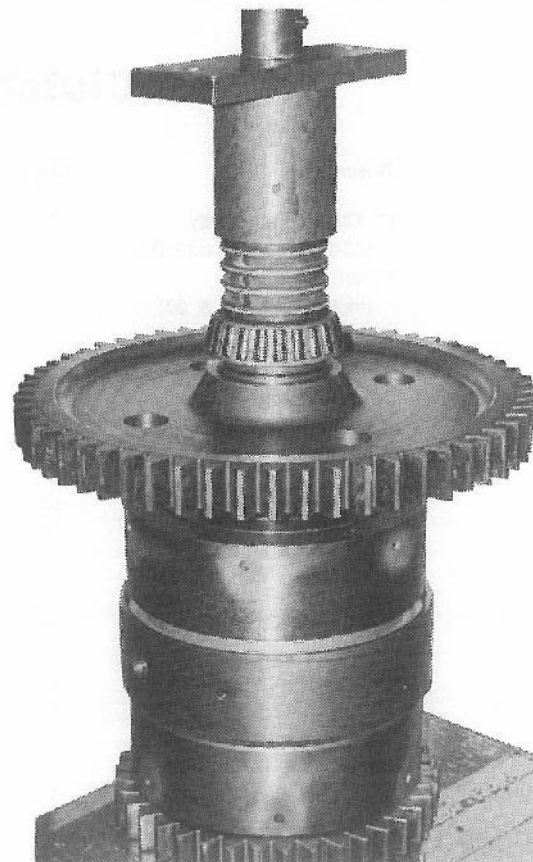

Figure 2:
4. Thread a No. 4-40 screw into a hole in the top of the core (26) and use a pliers to pull the core out of the valve body (See Fig. 2).